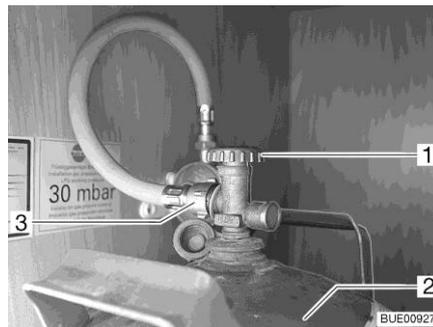

Fig. 115 Gas bottle compartment
- Close the regulator tap (Fig. 115,1) on the gas bottle (Fig. 115,2). Pay attention to the direction of the arrow.
- Unscrew the gas tube (Fig. 115,3) from the gas bottle.